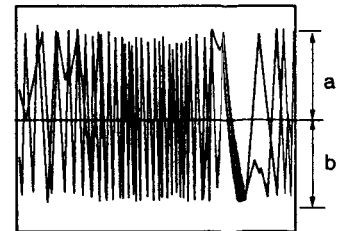

Fig. 3 Maximize the TRKG error
7. Slowly turn the grating counterclockwise from the on track position until the waveform amplitude becomes maximum. (Fig. 3)
2. Adjust VR602 so that the positive and negative amplitude of the TRKG error waveform become equal. (Fig. 3)